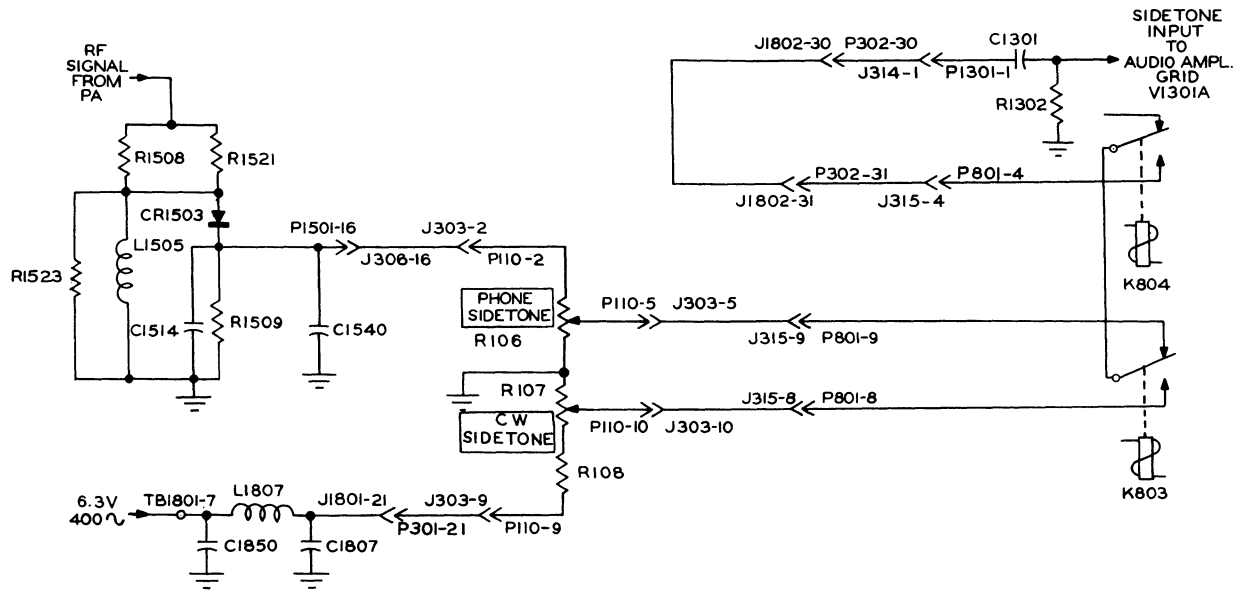

Figure 4-38. Sidetone Circuits, Simplified Schematic Diagram
4.9.11.1 SIDETONE CIRCUIT. See figure 4-38. Sidetone is provided in both the phone and CW positions to supply monitoring information on all transmission. During CW transmissions, a keyed 400-cps voltage indicates that keying relay K804 has operated. A 6.3-volt, 400-cps voltage is applied to the CW SIDETONE
control (R107) as shown in figure 4-38. The desired voltage level is taken from the control and applied to the input of audio amplifier V1301A through contacts of phone-cw relay K803 and keying relay K804. (Relay K803 is shown in the phone position in figure 4-38.)
Sidetone is provided during voice transmissions by rectification of the carrier. The rectifier circuit is shown in figure 4-38. Voltage then is applied to the audio amplifier through a circuit similar to that used for CW sidetone. In this case, R106 is the PHONE SIDETONE control.